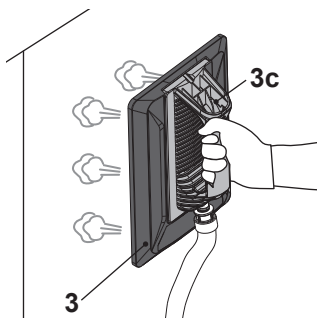

Fig. 10
- > The product is ready when the water is boiling and steam escapes from the steam plate (3). Hold the steam plate by its handle (3c) and apply against the work area (Fig. 10).